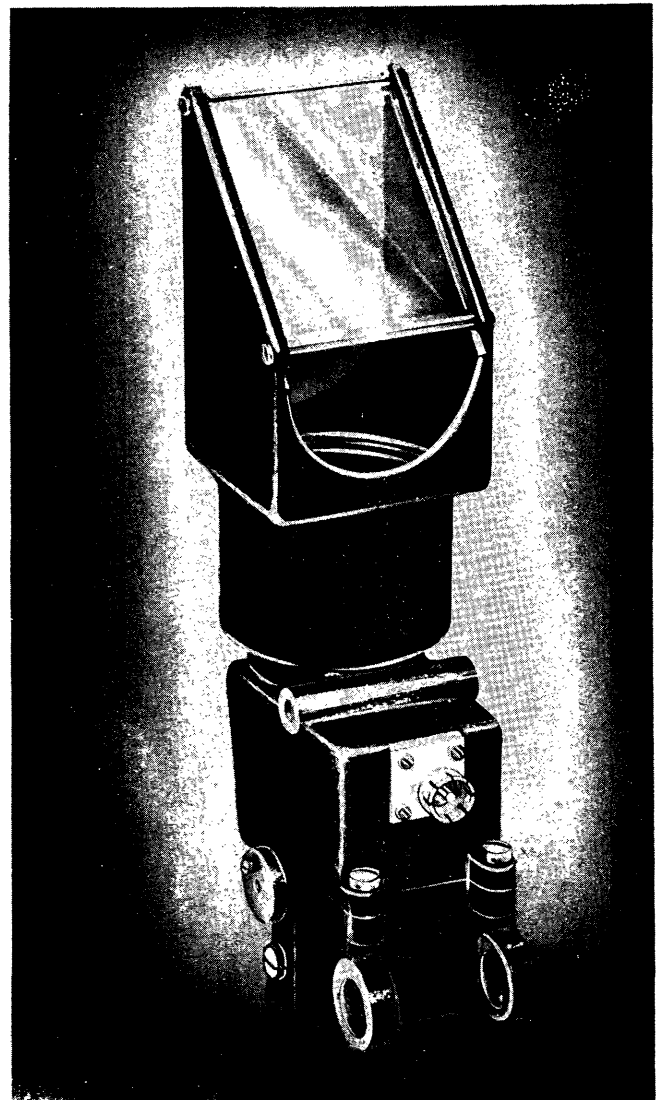

Figure 105B
3. Remove the four bolts and nuts holding the reflector. (See figure 105B.)